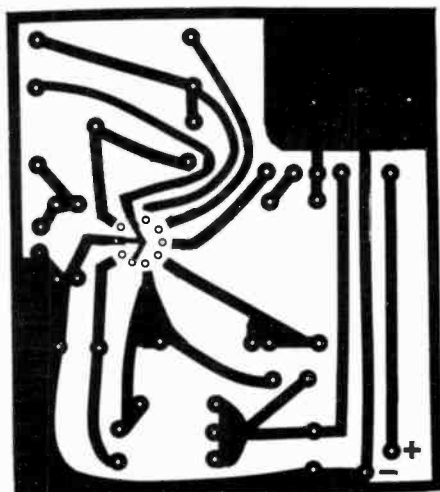

Fig. 3. Actual size foil pattern and component installation. Observe the placement of IC1 and the polarity of the electrolytic capacitors.
**Receiver.** The circuit of the receiver is shown in Fig. 1. It can be constructed on a printed circuit board using the foil pattern shown in Fig. 3. Once the board has been made, install the components, taking care to observe the polarity of the electrolytic capacitors and the orientation of the IC.